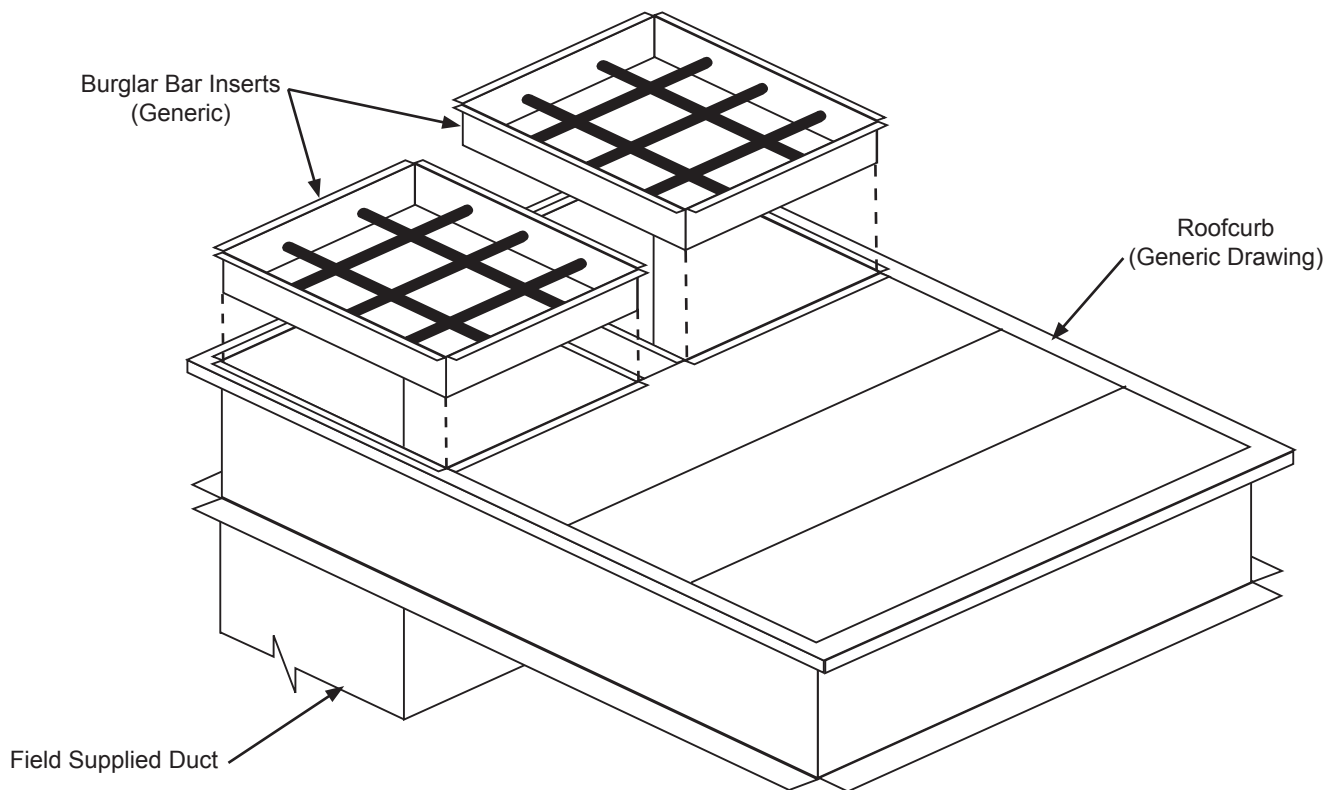

Figure 1
3. Install supply and return duct drops in curb duct openings. Note duct sizes must be large enough to allow the burglar bar inserts to slide inside. See Fig. 1.